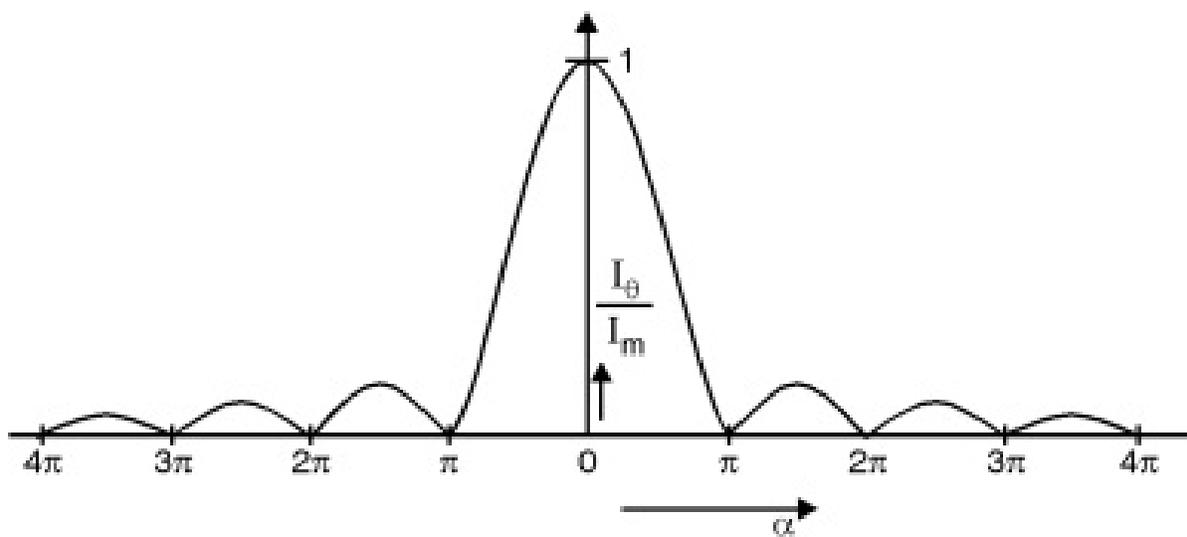

Fig. 3.4.4 : Relative intensity distribution in single slit diffraction
- The relative intensity distribution in single slit diffraction pattern is shown in Fig. 3.4.4.